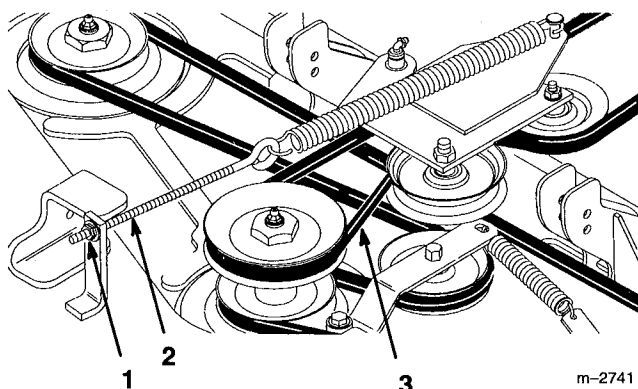

Figure 25
2. Loosen the jam nuts on the drive belt tension spring eyebolt (Fig. 25).